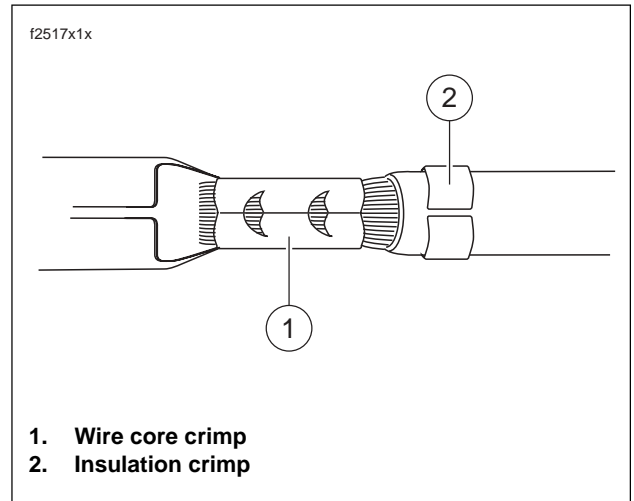

Figure B-7. Terminal Crimp
See Figure B-7. Inspect the wire core (1) and insulation crimps (2). Distortion should be minimal.